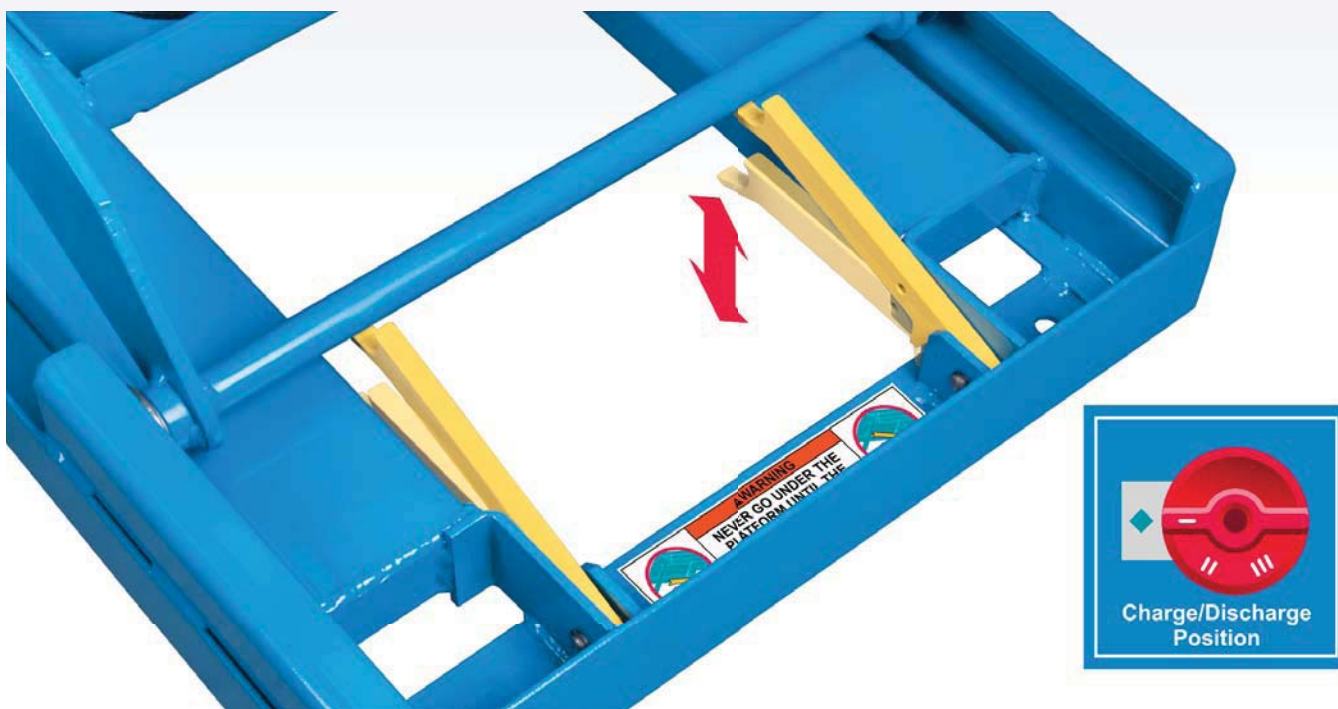

Figure 5 Maintenance Bar Operation
2. As detailed in Figure 5, lift each maintenance bar until the bottom of the bar contacts the scissor axle. Ensure both maintenance bars completely engage the axle.